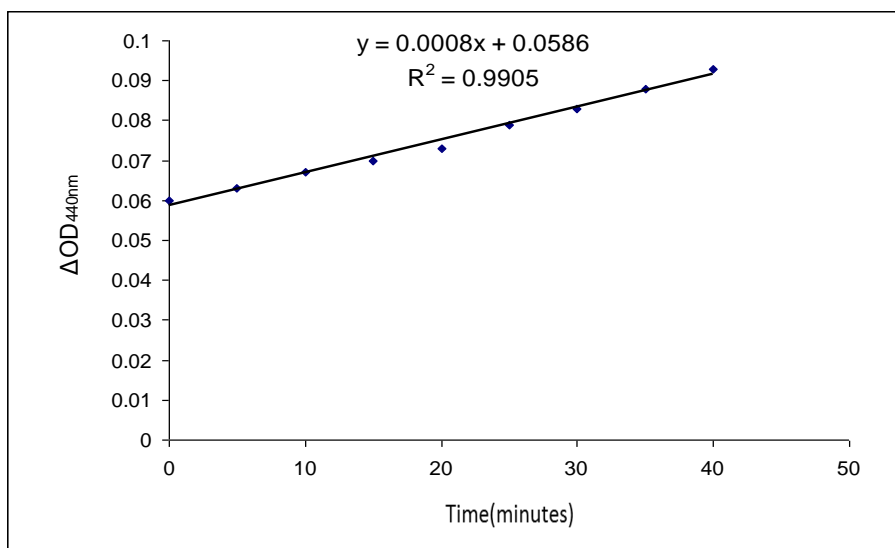

Figure.1 Absorbance change of diluted MDH positive control at 440nm.
Diluted MDH positive control is measured with the MDH Assay kit after various reaction times (Figure 1 and 2). The linear range of detection is 0.15 to 1.0 mU/ml in a 96-well plate assay.
2. Add 90 μL of working reagent mix into each well of a 96-well plate containing the diluted MDH positive control, samples, and blank. Immediately mix well and start recording $\text{OD}_{440\text{nm}}$ over 40 minute intervals, collecting data every 5 min. Figure 1 shows the data of diluted MDH positive control.